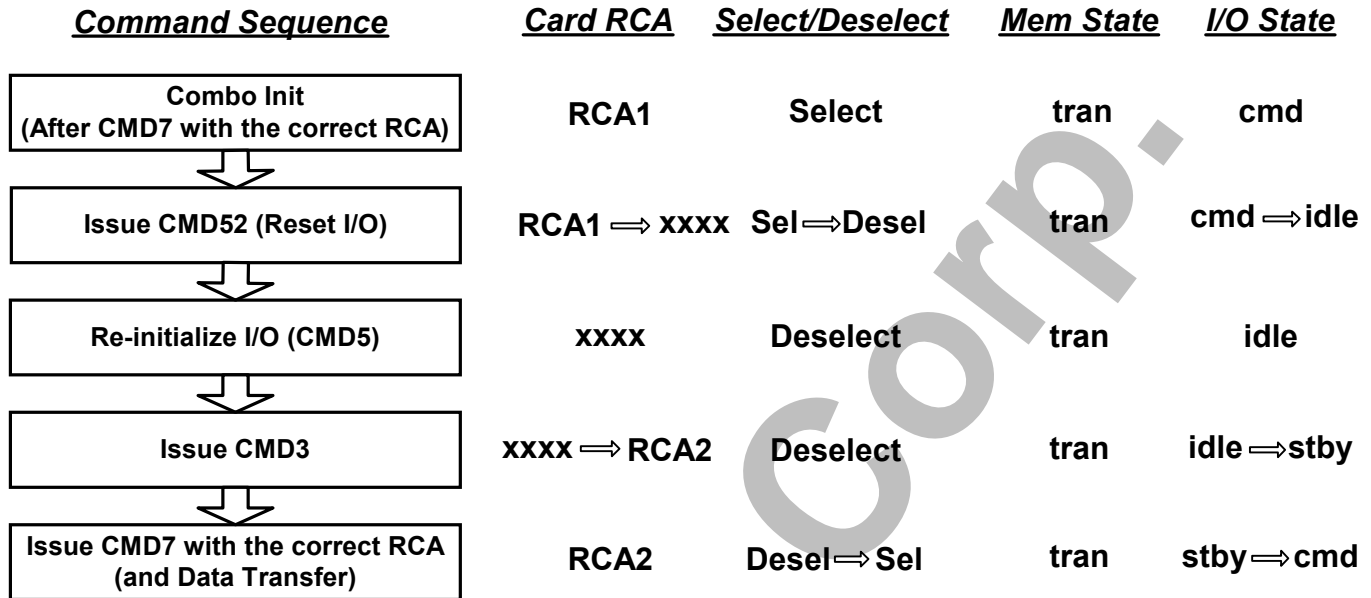

Figure 9 Re-Initialization flow for I/O Controller
According to the SD Physical Specification Version 1.01 figures 9 and 28, the DAT[3:1] lines are described as “don’t care” (X) during the CRC status period. If a host actively drives these lines during this period, it may interfere with interrupt signaling from an SDIO card. In order to prevent this conflict, if a host supports interrupts during 4-bit data transfers, it shall not drive DAT[3:1] during this period (hi-Z rather than don’t care.)
Figure 9 shows the re-initialization flow for the I/O controller of a Combo card. The flow of commands on the left side is matched with the RCA and controller states on the right side. The RCA value of xxxx denotes an RCA value of either 0x0000 or the prior RCA value. For new controller designs, a reset RCA value of 0x0000 is recommended. The host shall not issue any commands to the Combo Card except for CMD0, CMD5, CMD3 or CMD7 until the I/O controller has transitioned to the cmd state.